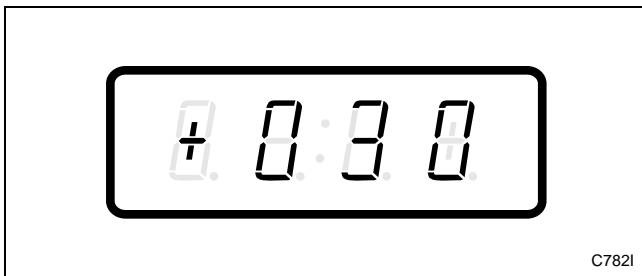

Figure 93
- Press the DELICATES (+) or the COLD (-) keypad to scroll through the programmable options until “+030” appears in the VFD. Refer to *Figure 93*.